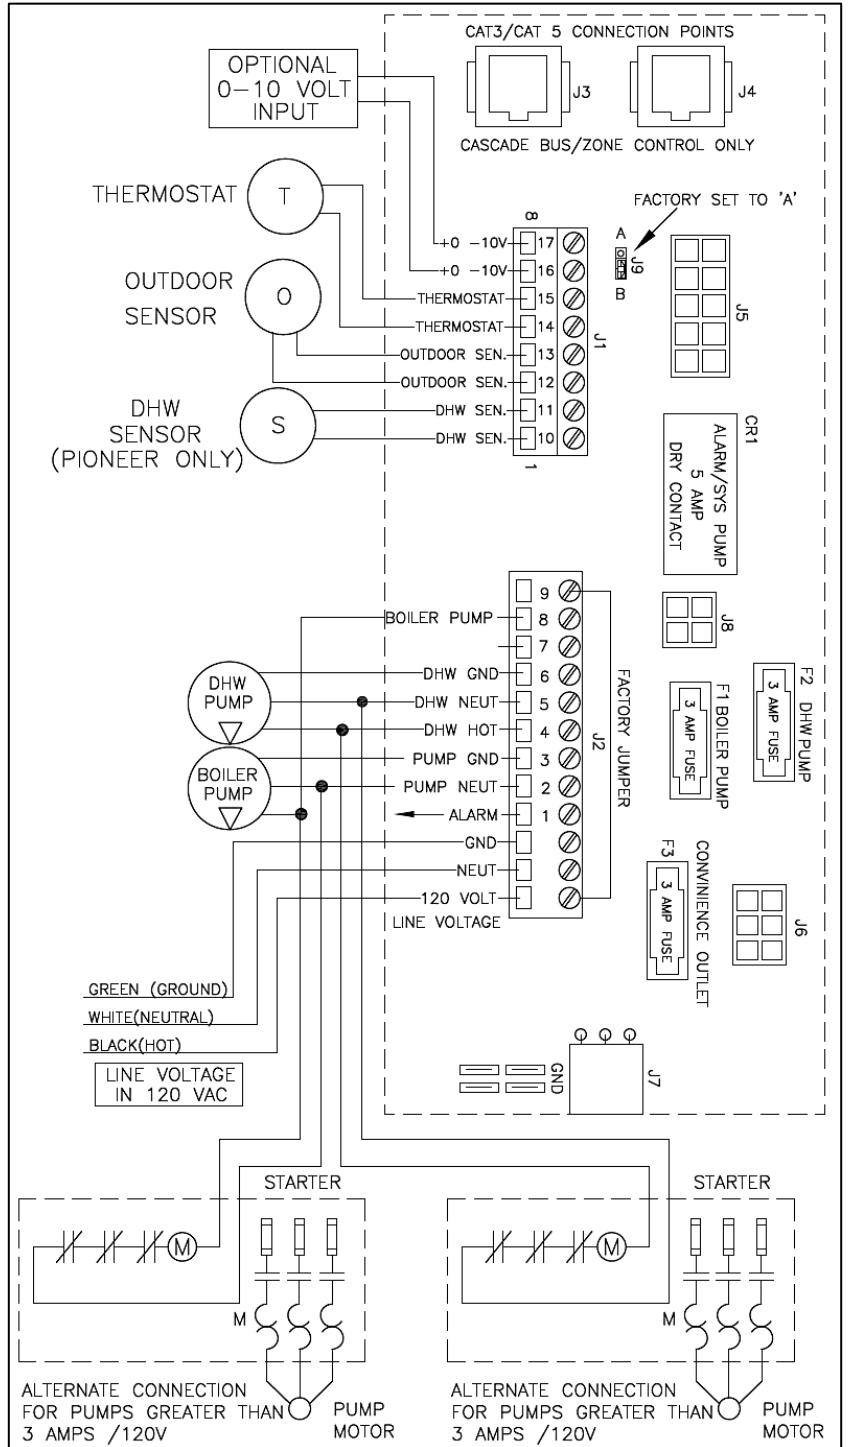

Figure 23 –Control Detail LP-325-P1
2. Connect the central heating pump to the terminals marked 8 (HOT), 2 (NEUT), 3 (GND) in Figure 23. The connections shown are suitable for a maximum continuous pump draw of 5 amps at 120 volts. If the pump requires more current or voltage other than 120 volts, an external motor starter or contactor will be required.